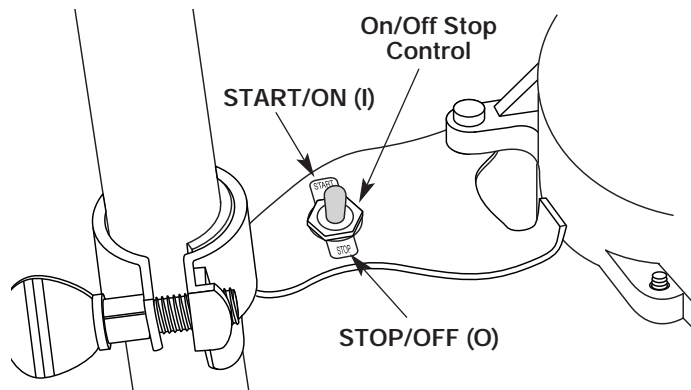
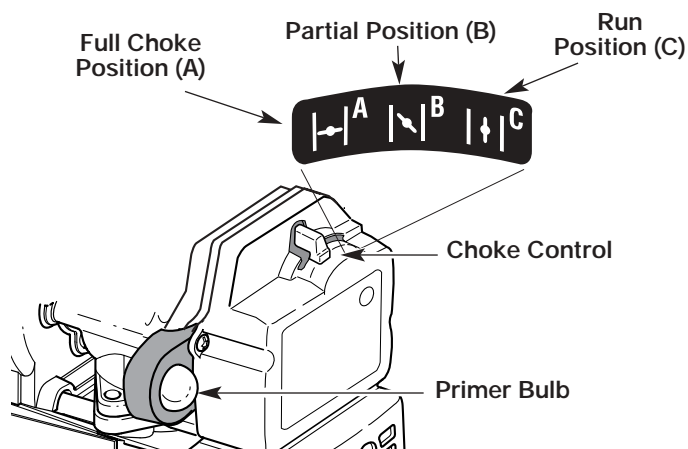

Figure 15
Figure 16
2. Put the On/Off Stop Control in the **ON (I)** position. See Figure 15.
3. Fully press and release the primer bulb 10 times, slowly, until **FUEL IS VISIBLE IN THE PRIMER BULB**. See Figure 16. If you can't see fuel in the bulb, press and release the bulb as many times as it takes before you can see fuel in it.
4. Place the choke lever in the **FULL** choke (A |←|) position. See Figure 16.
6. Place the choke lever in the **PARTIAL** choke (B |↘|) position. See Figure 16.
**NOTE:** If the engine floods while trying to start, place the choke lever in the **RUN** (C |↑|) position. See Figure 16. Squeeze the throttle control. Pull the starter rope briskly. The engine should start within three (3) to eight (8) pulls.
9. Squeeze the throttle control to warm up the engine for 5 to 10 seconds. Place the choke lever in the **RUN** (C |↑|) position. See Figure 16.
**NOTE:** Choking is unnecessary when starting a warm engine. Put the On/Off Stop Control in the **ON** position (Figure 15), and start in **PARTIAL** choke (B |↘|) position (Figure 16). After starting, place the choke lever in the **RUN** (C |↑|) position.
2. Put the On/Off Stop Control in the **OFF (O)** position. See Figure 15.